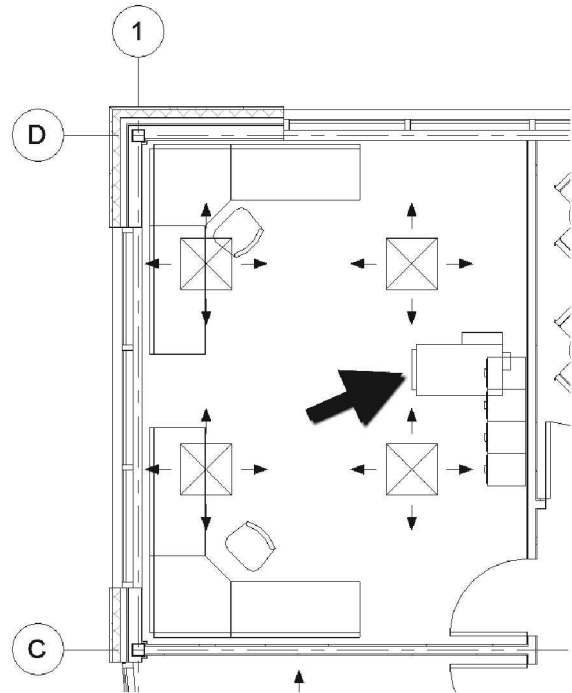

FIGURE 13-4.1 First VAV box placed
7. Click to place the element as shown in Figure 13-4.1.
Your model should look similar to Figure 13-4.1; the exact location of the VAV box is not important.